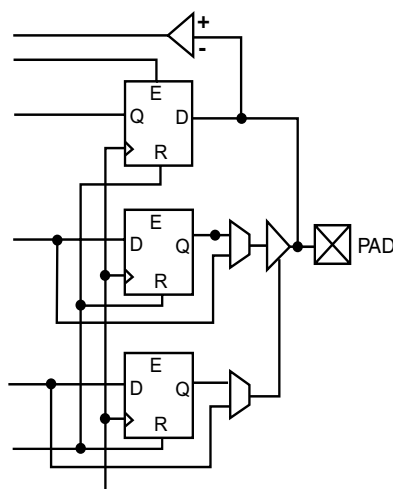

Figure 51: QuickSD I/O Cell
**Figure 51** shows the QuickSD device I/O cell.